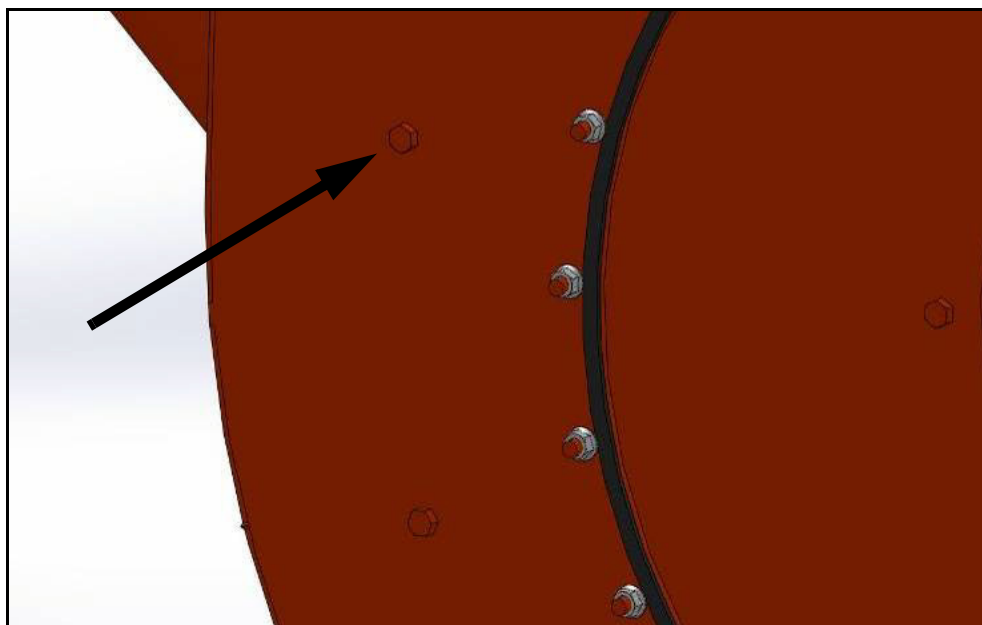

Figure 6.18 Rotor Spacer Bolt
3. Remove the rotor spacer bolt which is second from the top on the left side of the vac body (see Figure 6.18), as well as the pipe.